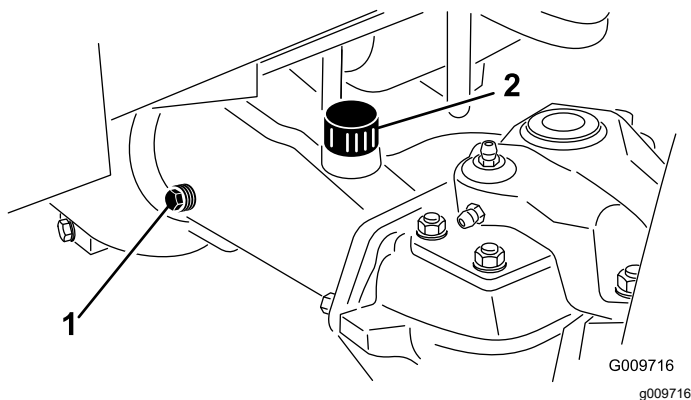

Figure 73
2. Remove a check plug from 1 end of the axle and ensure that the lubricant is up to the bottom of the hole (Figure 73).